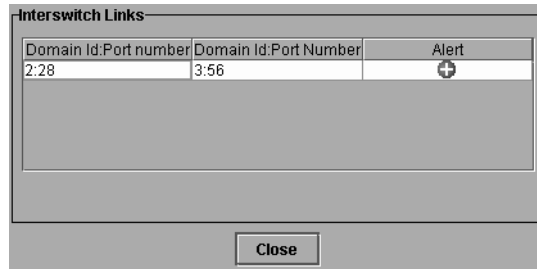

Figure 52: ISL Properties dialog box
- **Properties** — Displays the **ISL Properties** dialog box (Figure 52). You can also double-click the ISL to display this box. This dialog box displays the domain ID and port number for both products where the ISL is attached. The **Alert** column contains a minus-sign symbol if the ISL was removed and plus-sign if the ISL was added to the fabric since the last time the fabric was persisted. Note that ISL alerts only occur if the fabric is persisted.